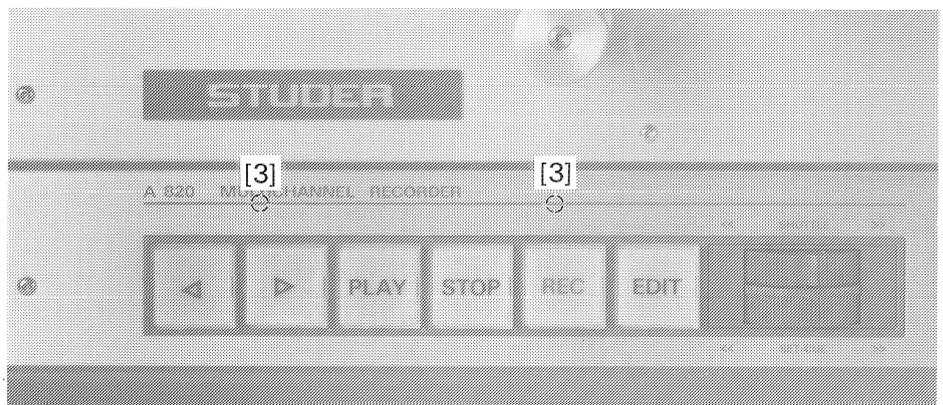

Fig. 51 Push button unit
- Unfasten two hexagon-socket-head screws [3] 3 mm from the top and remove the push button unit, fig. 51.